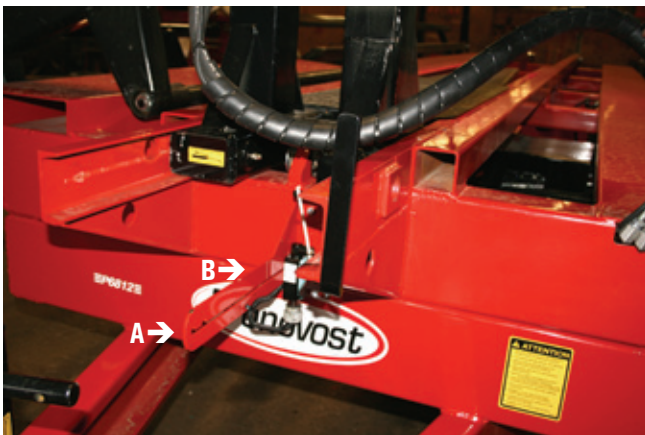

Figure 14
- 1) The length of stroke is factory set for the longest bale dimension (5 1/2'); the travel limit switch in position A. Although the stroke can be shortened to further increase the efficiency of the machine while handling shorter bales (4'); put the travel limit switch in position B as shown (Figure 14).